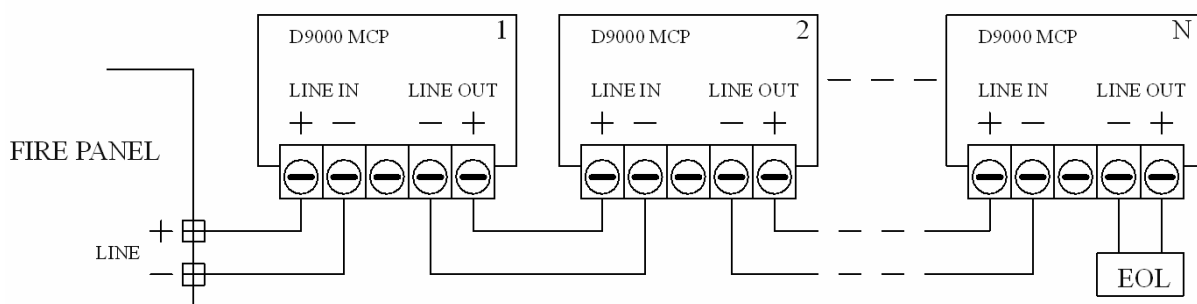

Fig. 2
- This option is obtained by cutting the bridge on the board with mounting chucks. (Fig. 2)